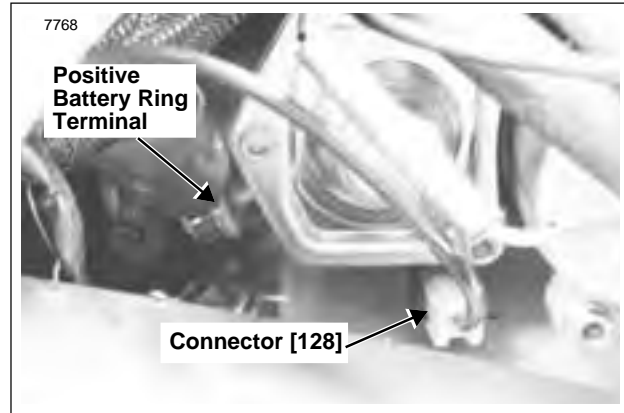
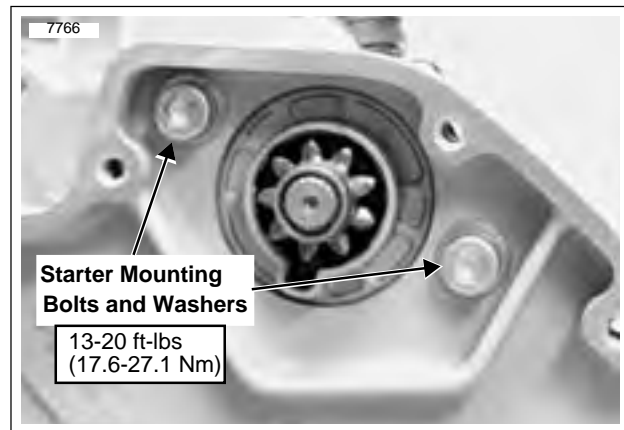

Figure 5-28. Starter Wires
Figure 5-29. Starter Mounting (Primary Side)
2. See Figure 5-28. Connect wiring to starter.
- a. Connect solenoid wire (3).
- b. Attach positive battery cable ring terminal (2).
- c. Install nut with washer (1) (metric). Tighten to 80-100 **in-lbs** (9-11 Nm).
3. See Figure 5-29. Install both starter mounting bolts and washers. Tighten to 13-20 ft-lbs (18-27 Nm).